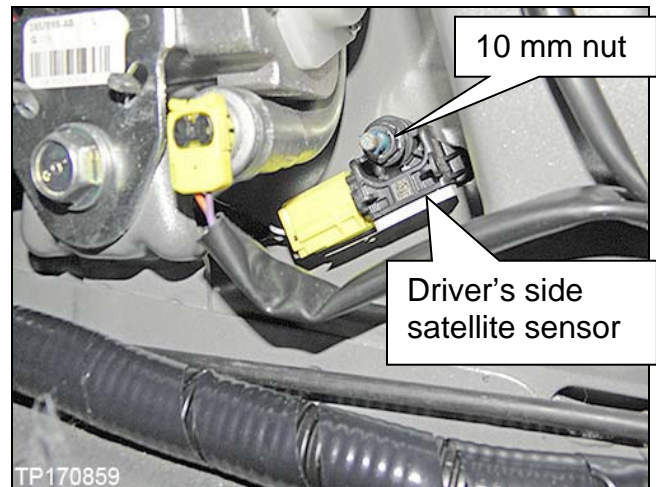

Figure 42
- Leave the satellite sensor attached to the Harness (Figure 42).